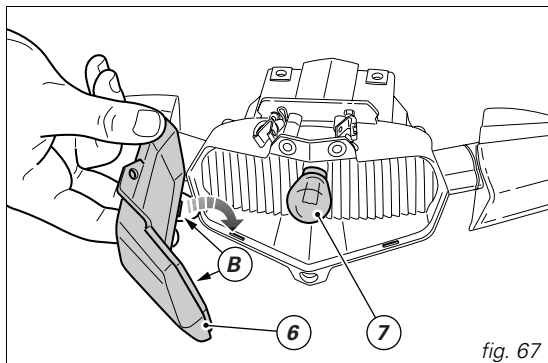

fig. 67
To change the brake light bulb proceed as instructed above and also remove the brake light lens (6) from its mounting. Push and twist the bulb (7) anti-clockwise to change it (fig. 67).